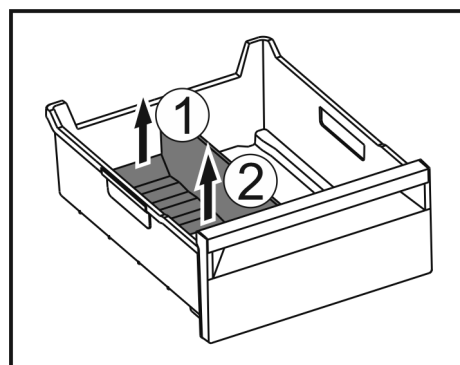

Fig. 163
- ▶ Lift the rear part of the ice compartment divider. Fig. 163 (1)
- ▶ Remove the ice compartment divider upwards. *Fig. 163 (2)*